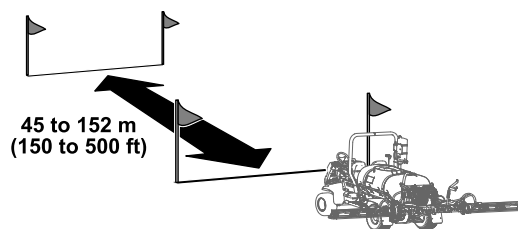

Figure 63
5. Mark a starting line on a testing area of turf (Figure 63).
3. Press button 2 on the InfoCenter and drive to the finishing line (Figure 66 and Figure 63).